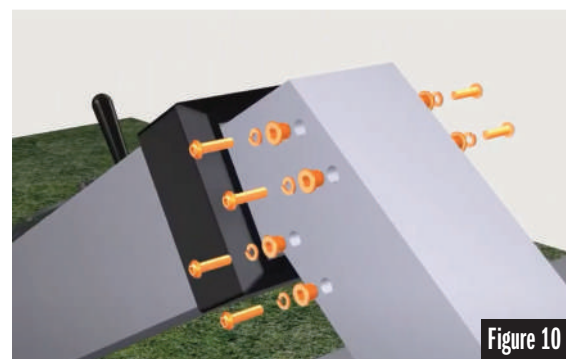

Figure 10
- Slide the Base Pole into the Extension Arm and secure the hardware in the same order. See Figure 10.